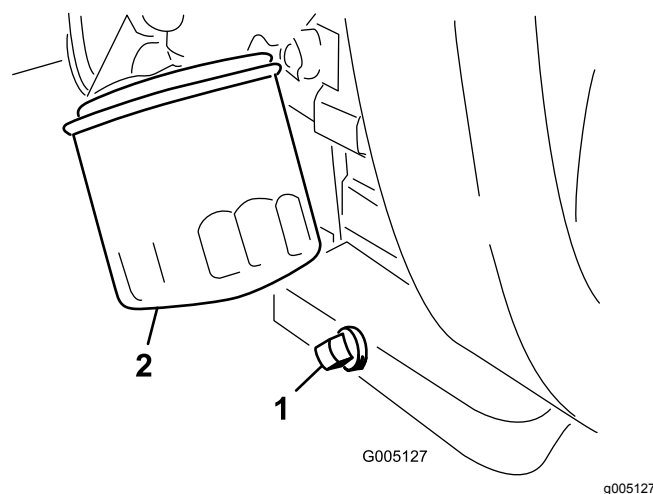

Figure 27
1. Remove the drain plug (Figure 27) and let the oil flow into a drain pan.
2. Clean the threads of the drain plug, apply PTFE sealant, and install the drain plug (Figure 27).
3. Remove the oil filter (Figure 27).